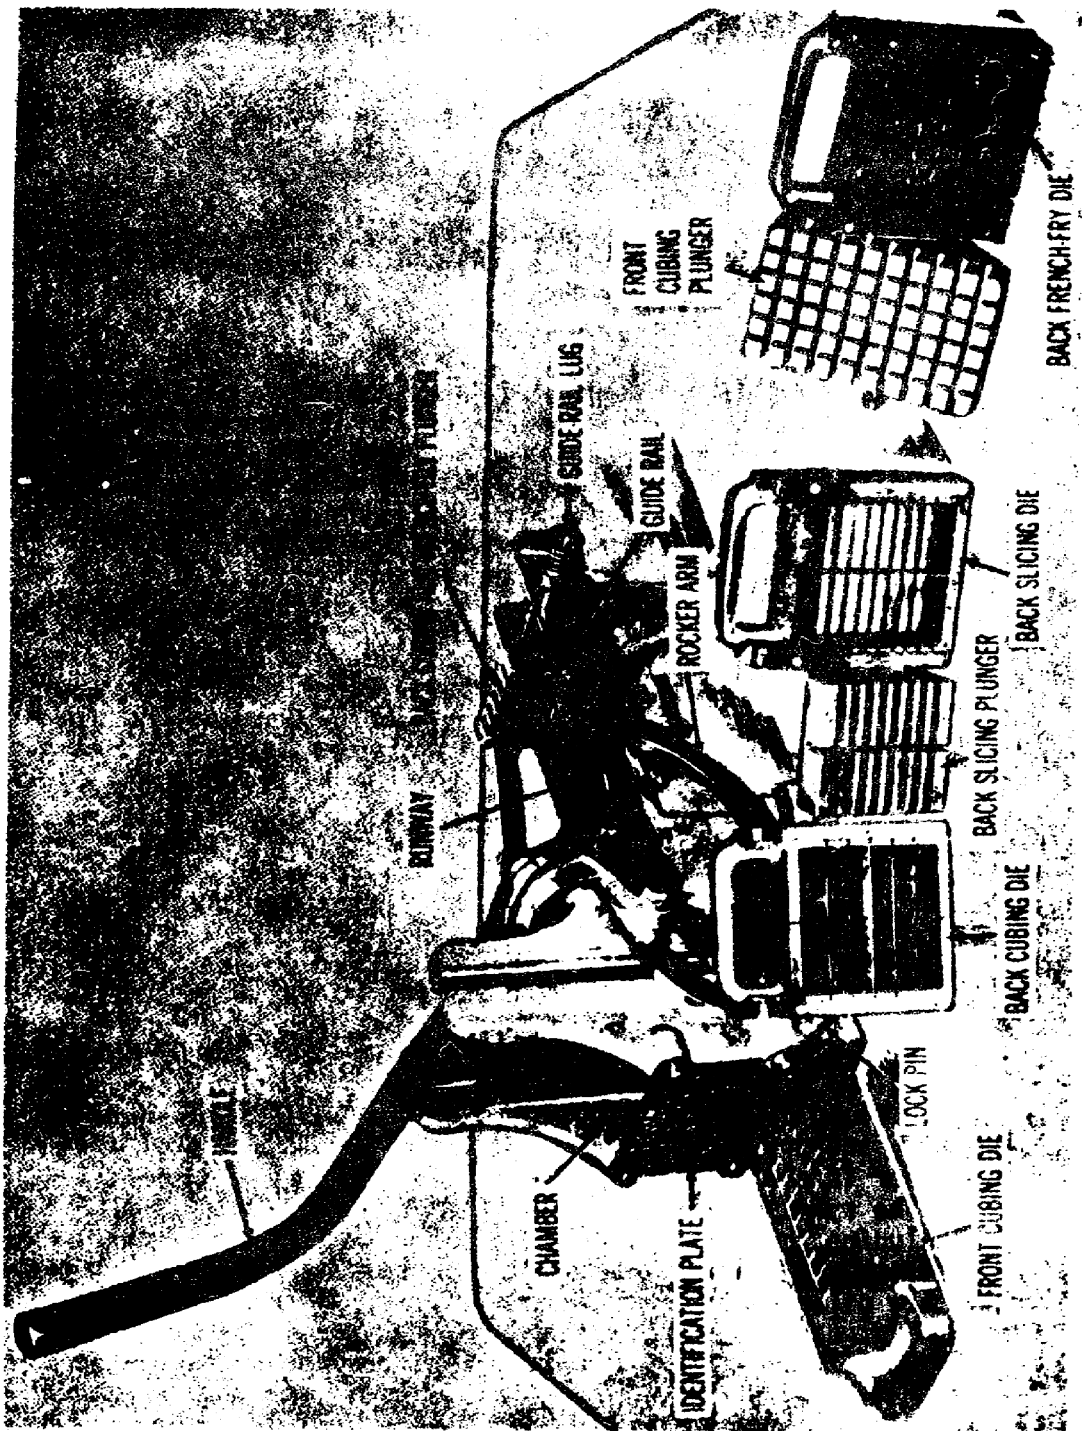

Figure 6. Vegetable-cutting machine.
4. VEGETABLE-CUTTING MACHINE. This is a hand-operated machine that cuts, slices, and cubes firm vegetables (fig. 6). The cutter consists of a frame, handle assembly, runway, chamber, and an assortment of dies and plungers which determine the type of cut.